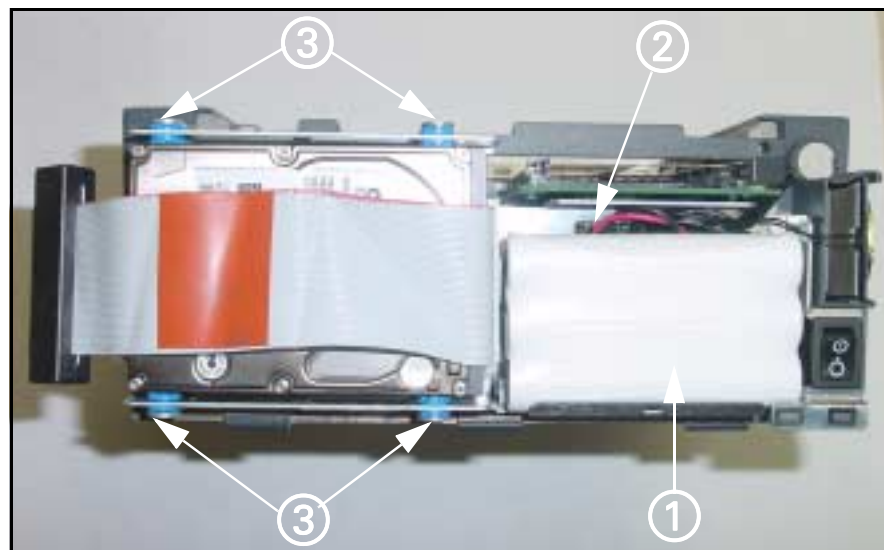

Figure 10-7 MDS (front view)
- 3) Remove and save 4 Phillips-head screws and sleeves (③ in Figure 10-7) that secure primary hard drive to top and bottom of front housing.